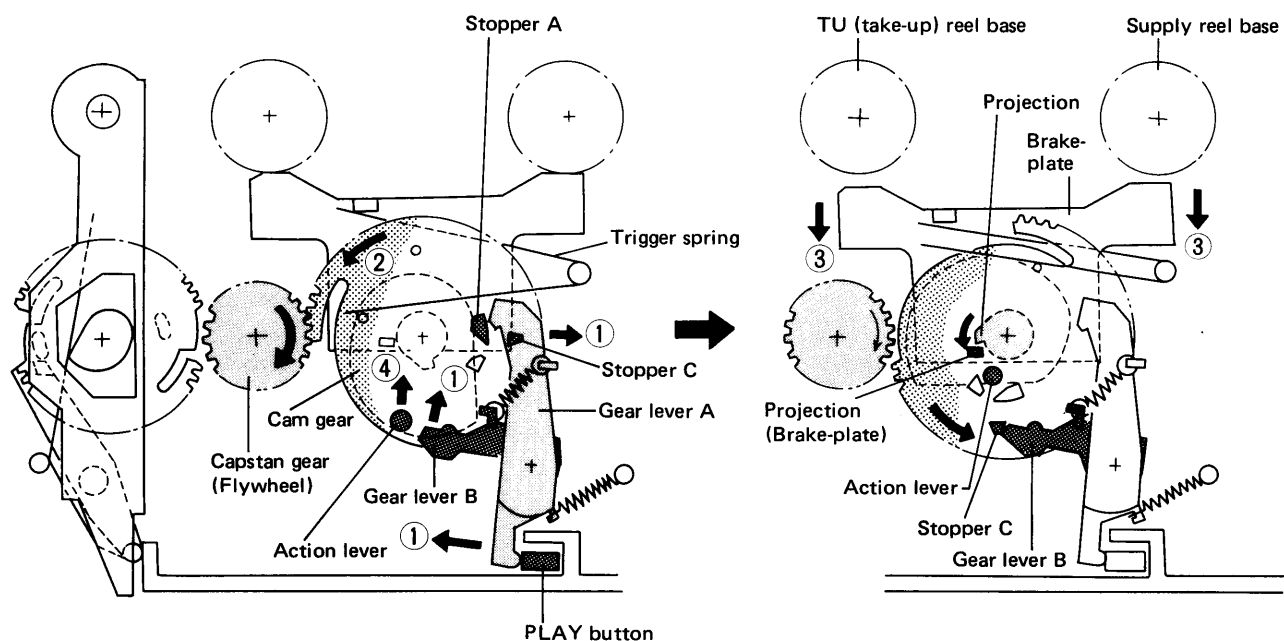

Fig. 15-2 STOP → PLAY operation
### 15.2 PLAY OPERATIONS (Fig. 15-2, 15-3)
1. When the PLAY button is pressed down, the shape of the button forces gear lever A in the ① direction. Also, at the same time, gear lever B travels in the ① direction, and gear lever A and cam gear stopper A are disengaged.
2. The cam gear is forced in the direction ② by the trigger spring. Consequently, it starts rotating in the direction ② (CCW) and meshes with the capstan gear (flywheel).
3. As the capstan gear and cam gear are now engaged, the force transmitted by the motor and flywheel rotate the cam gear further, until stopper C makes contact with gear lever B. It stops in that position. At this point, the capstan gear and cam gear are no longer meshed. (See right side of Fig. 15-2).
4. Now, the projection on the cam gear boss is forcing the brake-plate down in the direction ③, and braking force is released from the reel base.
5. Also, the cam shape of the cam gear is moving the action lever in the ④ direction.